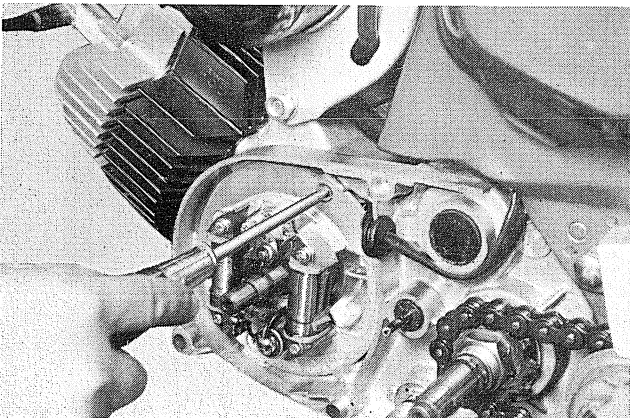

Fig. 3-1-8
6. Remove the flywheel magneto base, and hold it to the frame with a string, so that engine removal can be facilitated. (Fig. 3-1-8 and 9)